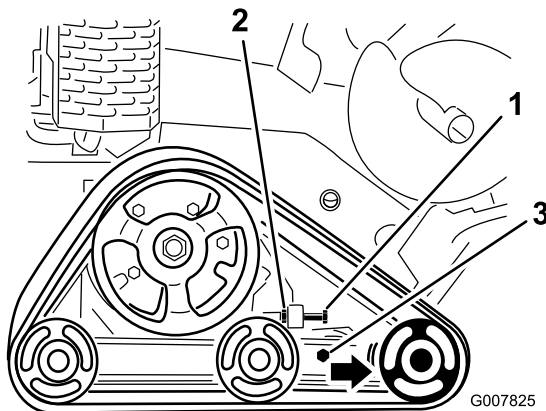

Figure 49
3. Loosen the jam nut on the track tensioning bolt and the clamp bolts on the tension arm (Figure 49).
4. Torque the tensioning bolt to 24 to 30 ft-lb (32.5 to 40 N-m) to tighten the track (Figure 49).
4. Back out the tensioning bolt and jam nut (Figure 49).
5. Loosen the clamp bolts (Figure 49).